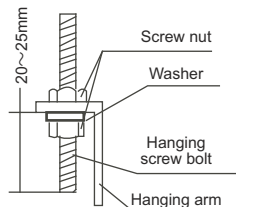
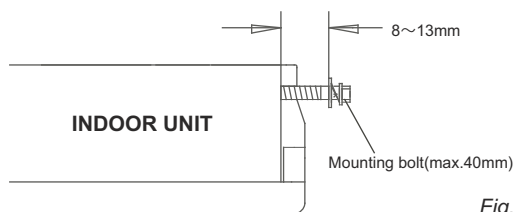

Fig. 5-12
Fig. 5-13
- Locate the hanging arm on the hanging screw bolt. (Refer to Fig. 5-12) (for some of the models 60 do not do this) Prepare the mounting bolts on the unit. (Refer to Fig. 5-13)